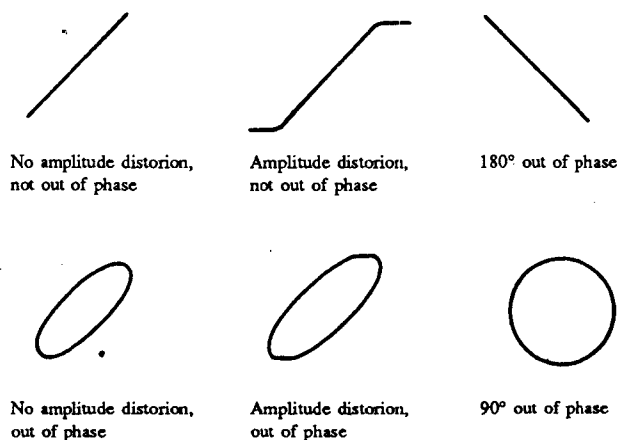

Fig. 22 Typical X-Y Phase Measurement Displays
(Refer to Fig. 22)
5. If necessary, repeat step 3, readjusting the channel 1 and 2 gain controls for a suitable viewing size. Some typical results are shown in Fig. 22.